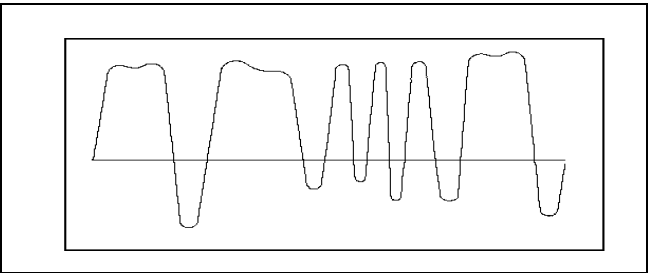

Figure 6 - Demodulated DCS Waveform
When performing the transmitter and receiver alignment procedures, refer to Figure 6 for location of test points and adjustment controls.
3. Press the PTT switch and observe the demodulated waveform on the oscilloscope. Compare with Figure 6.